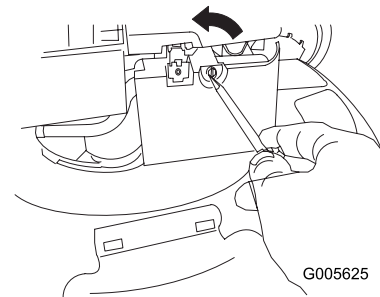

Figure 29
1. Use a screw driver to open the air filter cover (Figure 29).